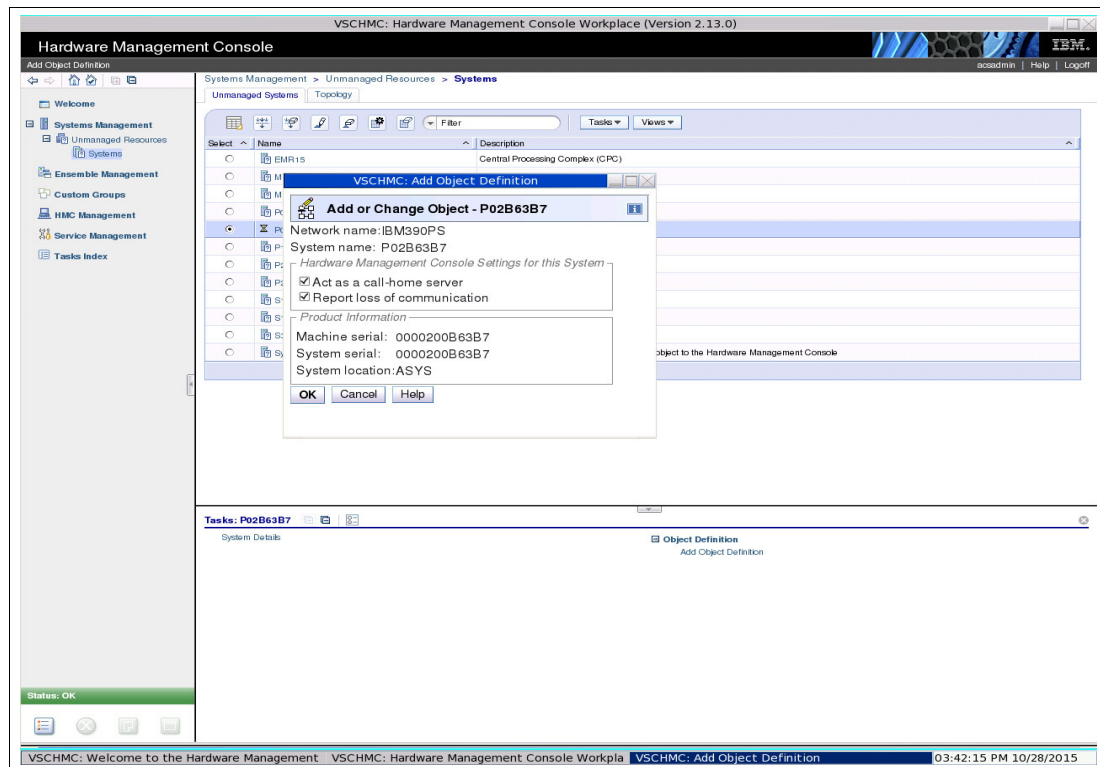

Figure 4-9 Adding CPC confirmation window
6. A window opens, as shown in Figure 4-9. We confirm that the information is correct and click **OK**.